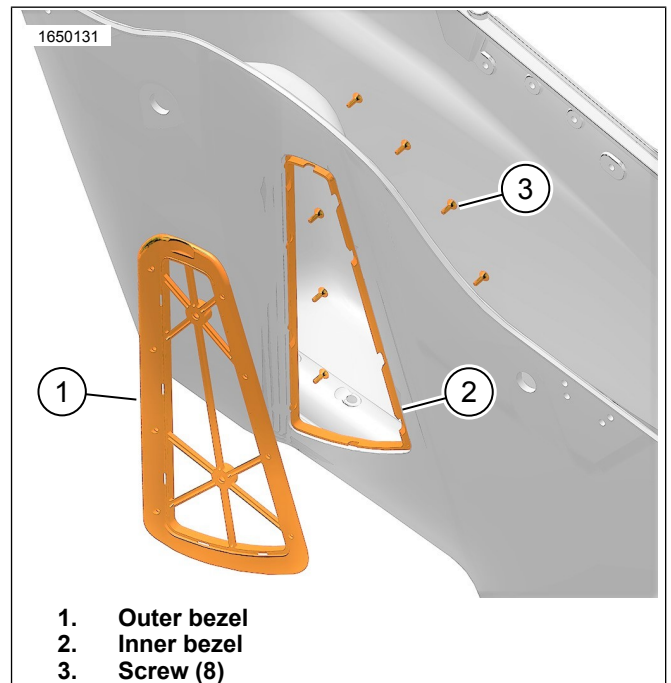
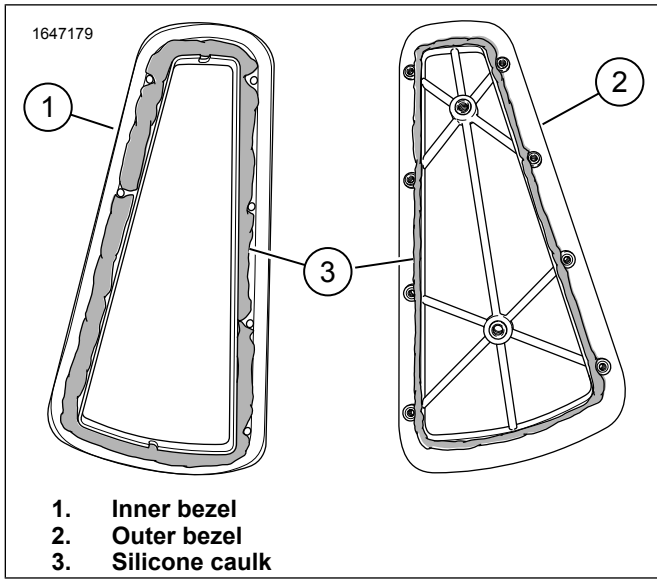
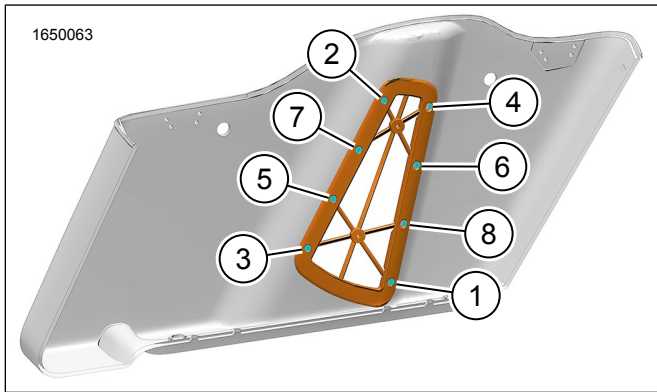

Figure 11. Test Fit Bezels
Figure 12. Bezels
Figure 13. Torque Sequence - Bezel Screws
5. See Figure 11. Test fit inner (2) and outer (1) bezels on saddlebag.
- a. Install and lightly tighten screws (8).
7. See Figure 12. Apply silicone caulk (3) to inner (1) and outer (2) bezels.
8. See Figure 11. Install inner (2) and outer (1) bezels on saddlebag.
- a. Install screws (3).
- b. See Figure 13. Tighten in sequence.